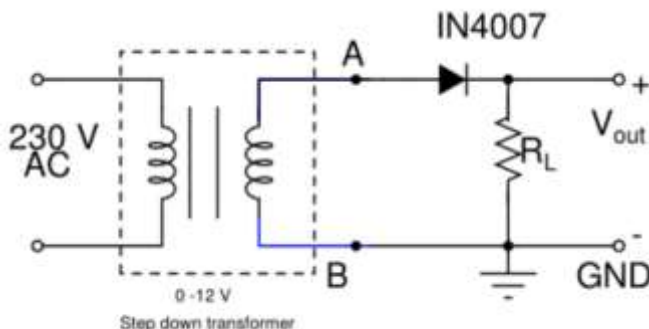
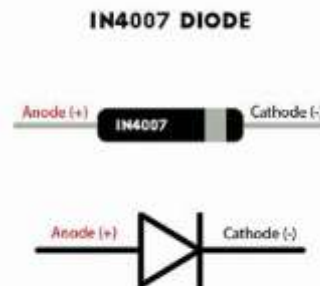

Fig 1.1 Half-wave rectifier circuit
Fig. 1.2 IN4007 diode image
- Take extra care to avoid shock. The primary side of the transformer has already been insulated and connected to a plug. You should use only the two leads of the transformer secondary for circuit connections, i.e. points A and B shown in Fig.1.1.
The half-wave rectifier circuit of Fig. 1.1 is modified and re-drawn in Fig.1.3. In the modified circuit, a large value capacitor ($1000\text{ }\mu\text{F}$) is connected across R_L . Please note from Fig.1.2 the '-' terminal of the capacitor (the '-' terminal is generally the one with the shorter lead length).
- Switch-OFF power to the transformer. Modify the circuit of Fig.1.1 so as to connect the $1000\text{ }\mu\text{F}$ electrolytic capacitor C across R_L . **Take extreme care to see that '-' terminal of the electrolytic capacitor is connected to the GND and the '+' terminal to V_{out} .**